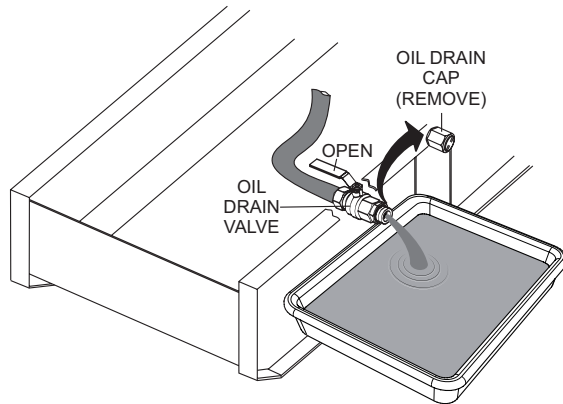

Figure 65. Draining The Engine Oil
4. Remove the **oil drain cap** (Figure 65).